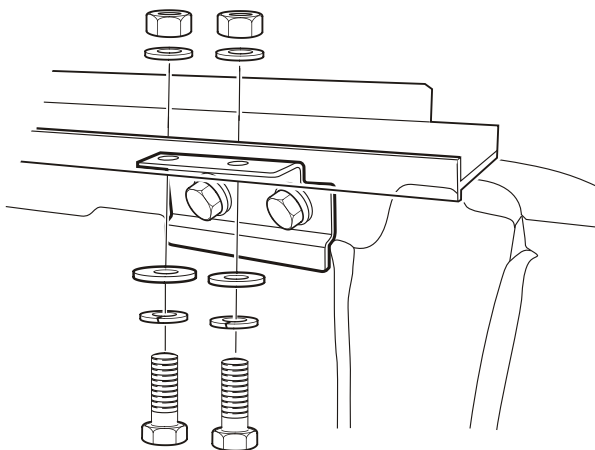

Figure 11
19. Loosely fit the M8x25 fixing bolts, spring washers and flat washers in the rear canopy mounting brackets. Check that the canopy is square on the vehicle and the fixing holes are aligned. Use M8 nuts and washers on the top surface. Refer to figure 11.